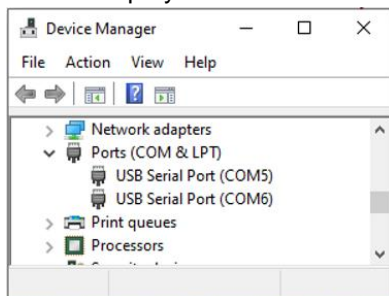

Figure 3: Windows - COM Ports
- On Windows, the two COM ports are displayed in the device manager (see Figure 3).
The lower numbered COM port (COM5 in Figure 3) is for the DA16200/DA16600 debug interface. The higher numbered COM port is for the DA16200/DA16600 ATCMD interface.